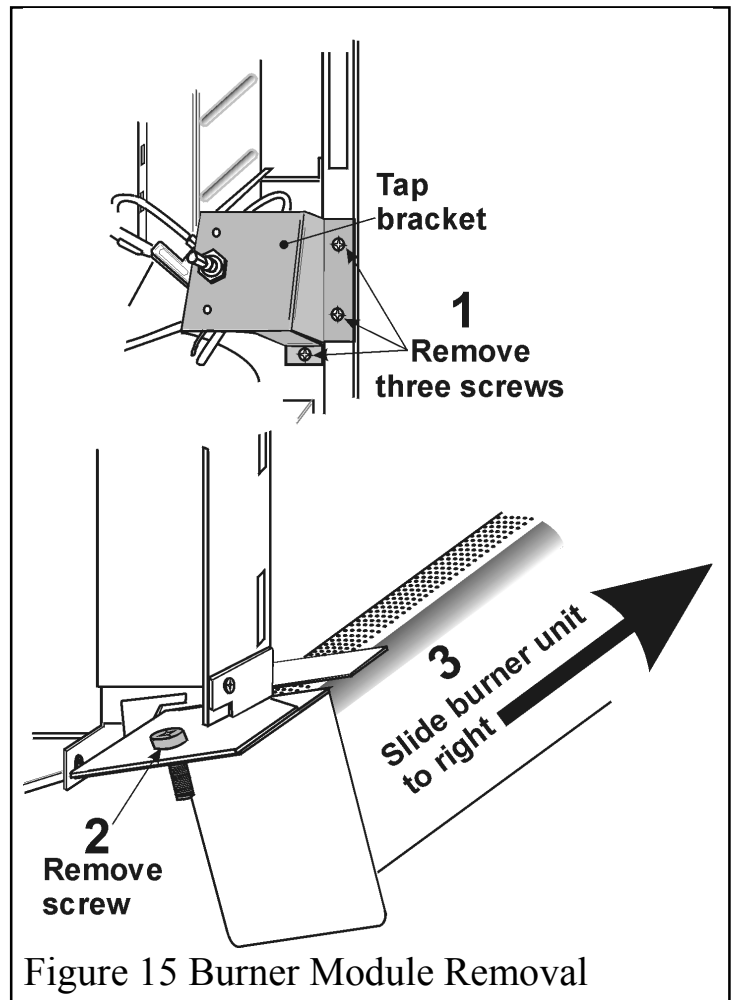

Figure 15 Burner Module Removal
7.8.4 Detach the gas tap bracket from the right side of the appliance by removing three screws. See figure 15.
7.8.5 Detach the left side of the burner from the firebox by removing one screw. See figure 15.
7.8.6 Free the burner & pilot module from the rear pilot air pipe and the firebox by carefully sliding the module to the right while pulling it slightly. See figures 15 and 16.